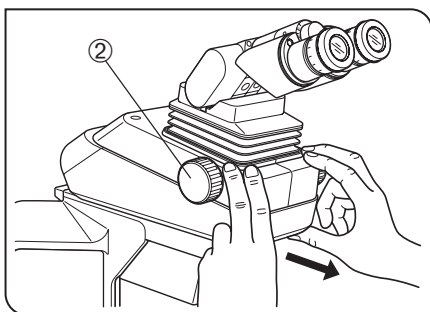

Fig. 41
- ⊙ When adjusting front-rear position of the observation tube, hold the base of the observation tube as shown in Fig. 41.
- ⊙ To adjust the up-down position of the eyepiece, turn the dial ②.